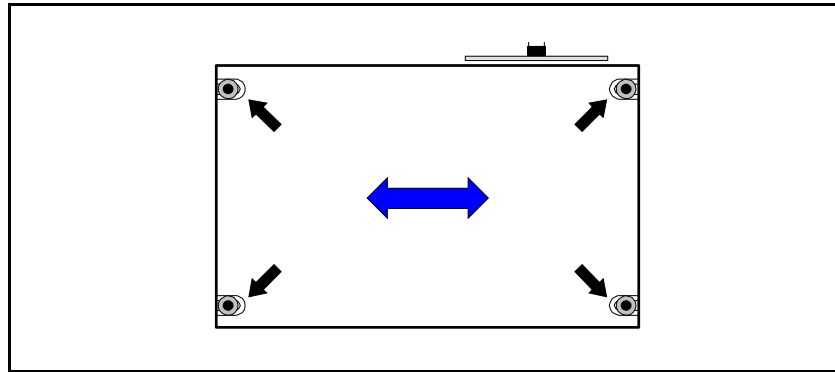

Figure 9-9. Dual Vision Camera.
1. To adjust the camera Y position, remove the camera cover. Loosen the four screws as depicted in Figure 9-9.